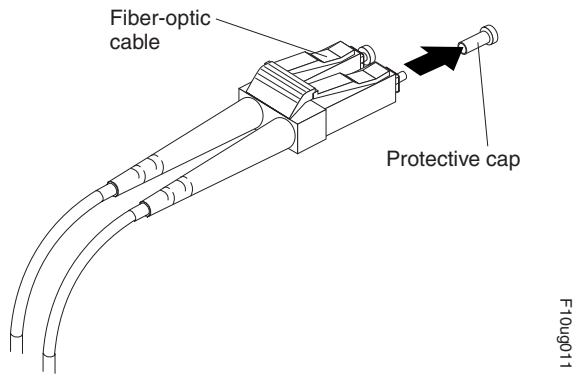

Figure 29. Removing caps from fiber-optic cables
1. Remove the protective cap from the fiber-optic cable. See Figure 29 on page 52.